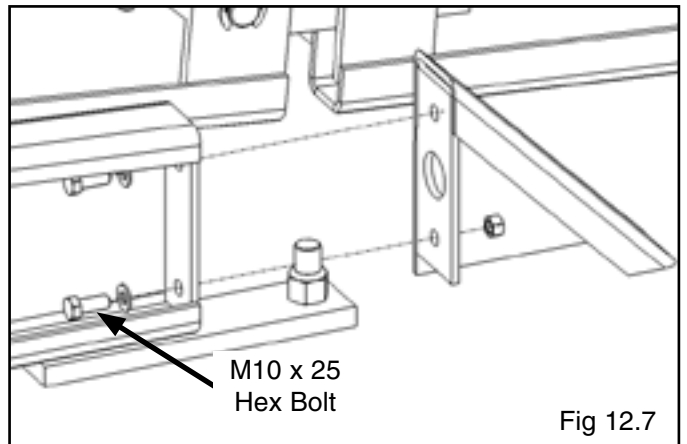

Fig 12.7
8. Attach the Tire Guard Weldments using M10 x 25 hex bolts, nuts and washers. Make sure that the open side of the Guard faces the OUTSIDE of the lift. (See Fig 12.7)